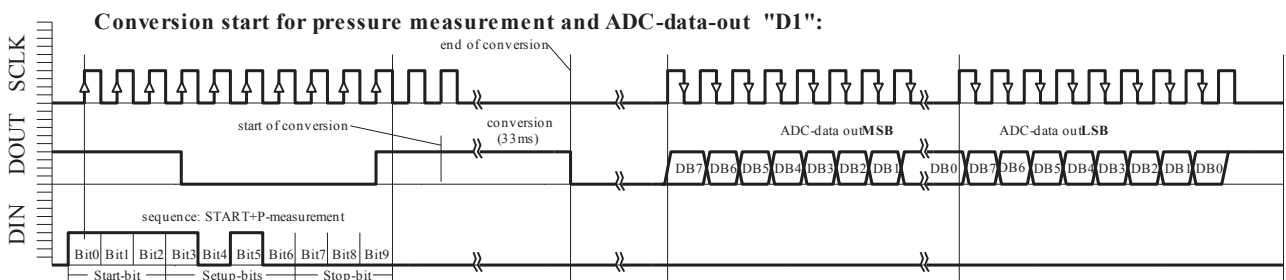

Fig. 6a: D1 ACQUISITION sequence
- ◆ Conversion start for pressure measurement and ADC-data-out "D1" (Figure 6a)